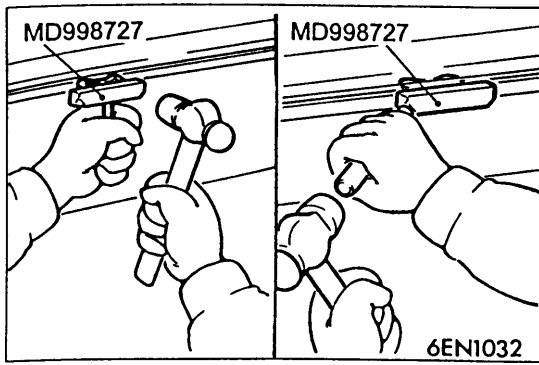

Fig.4-38
(1) OIL PAN REMOVAL
- b Knock the special tool between the oil pan and cylinder block as shown in the illustration, see Fig.4-38.